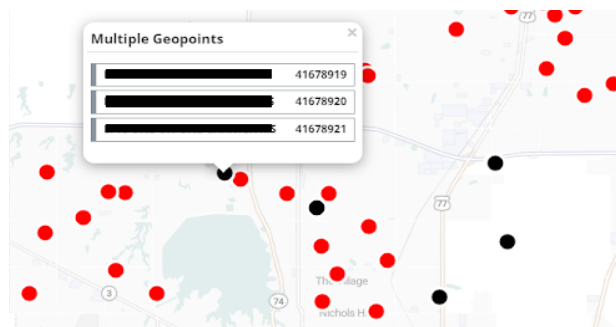

Figure 86 - Multi-Order stop
- Click on the black dot to see the list of Orders; click on the individual Order to see the details (see *Figure 86*).